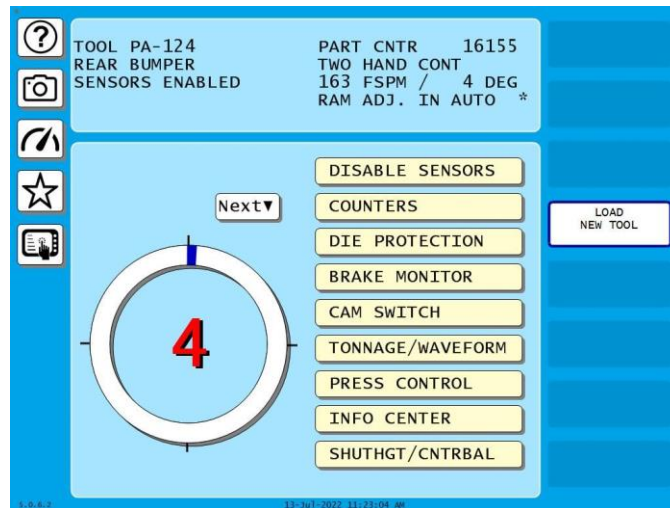
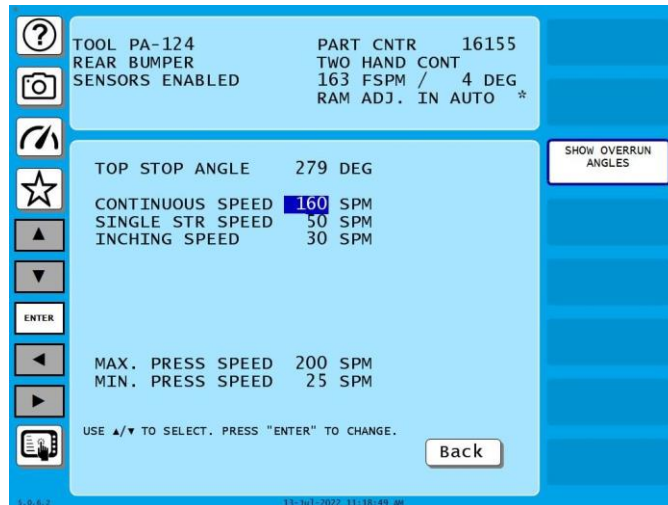

Figure 5-1. Main Run Menu
Figure 5-6. Press Control Run Screen Displaying Motor Speed
1. On the Main Run Menu, Figure 5-1, press PRESS CONTROL, as shown in Figure 5-1 and press ENTER.
10. Check the value displayed in the FSPM field (see Figure 5-6, below). This field, which displays on the right side of the Run screen header when the clutch is not engaged, shows the speed of the press as measured at the motor drive, which is fed to the Option 2 board via the tachometer generator output (see *Wiring Analog Speed Control Inputs and Outputs*, page 34).
Note the FSPM value of 163 in the Run screen, Figure 5-6, where the CONTINUOUS SPEED item has been set to 160 SPM.
1. On the Main Run Menu (see Figure 5-1, page 68), press PRESS CONTROL. The Press Control Run screen, shown in Figure 5-6 displays. Descriptions of the settings you can adjust on this screen are shown in Table 5-1.